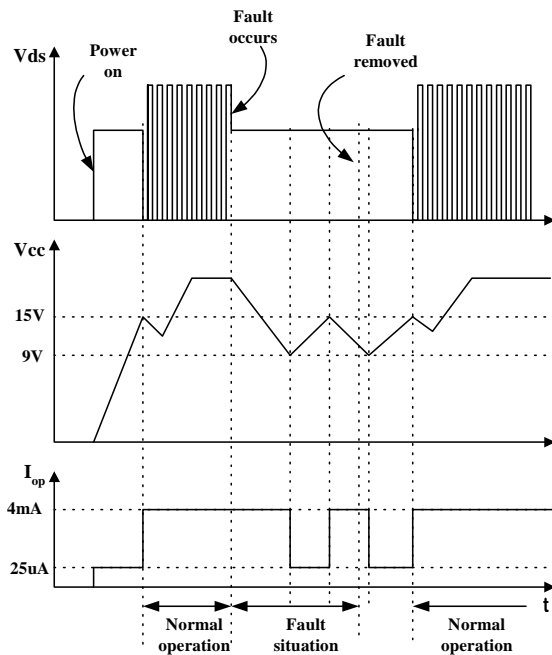

Figure 12. Auto restart mode protection
-Auto-restart mode protection: Once the fault condition is detected, switching is terminated and the Sense FET remains off. This causes V_{cc} to fall. When V_{cc} falls down to the under voltage lockout (UVLO) stop voltage of 9V, the protection is reset and FSCQ1265RT consumes only startup current (25uA). Then, V_{cc} capacitor is charged up, since the current supplied through the startup resistor is larger than the current that FPS consumes. When V_{cc} reaches the start voltage of 15V, FSCQ1265RT resumes its normal operation. If the fault condition is not removed, the SenseFET remains off and V_{cc} drops to stop voltage again. In this manner, the auto-restart can alternately enable and disable the switching of the power Sense FET until the fault condition is eliminated (see Figure 12).